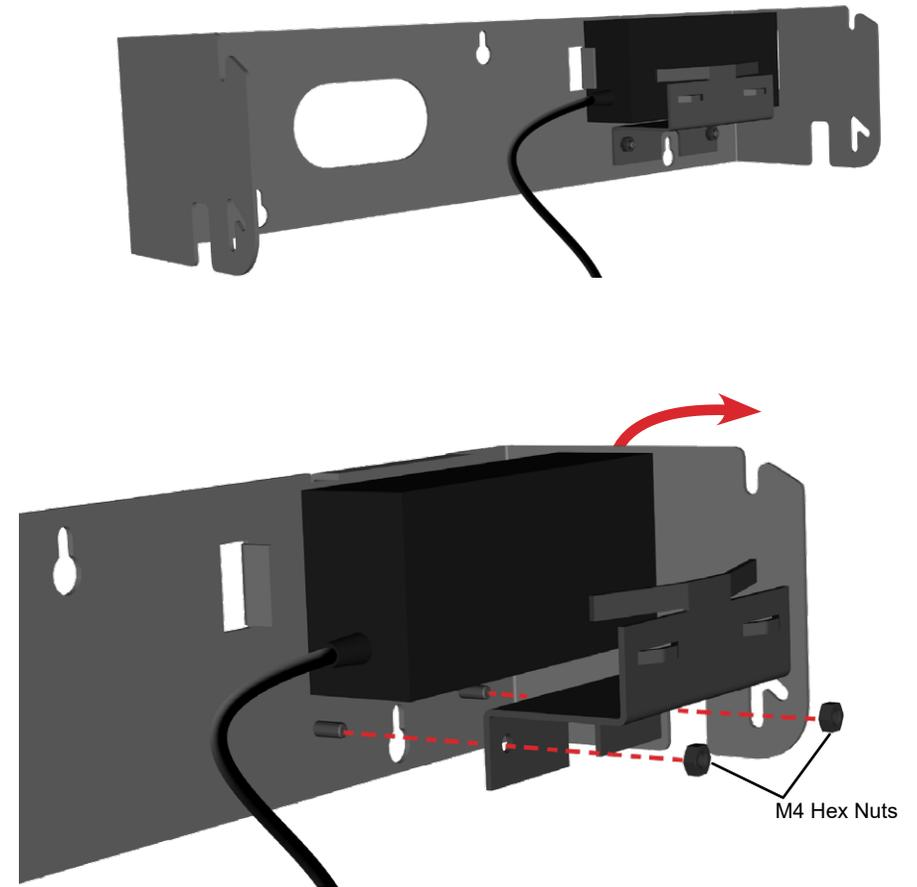

Figure 2. Remove bracket and power supply
2. Disconnect the power supply supporting bracket from the wall mount bracket (Figure 2).